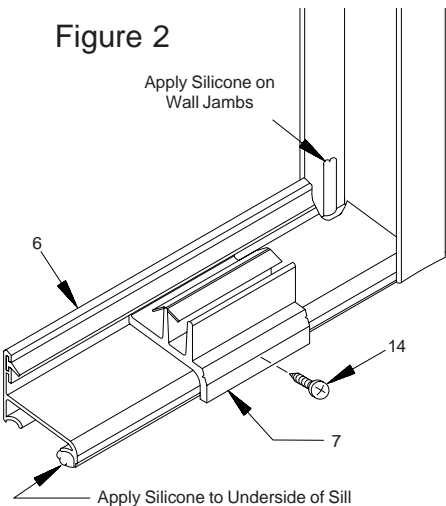

Figure 2
6. Place center guide (7) to center position on sill (See Figure 2). Make sure the center guide is hooked into the slot position on the sill, then drill a hole using a #31 drill bit and fasten center guide to sill with the #6 x 3/8" screw (14) provided.
1. Set Wall Jamba (1) in place on walls, centering bottom of jamba on rim of tub. Hold plumb and mark walls for screw holes.
2. Remove and drill 3/16" diameter holes in walls (use a carbide tipped drill bit for tile walls). Insert plastic wall anchors (2) into holes.
3. Cut sill (6) to fit opening between jamba. Run a bead of silicone full length to the underside of sill (See Figure 2) and apply silicone to inside of jamb where jamb meets tub. On inside of jamb, run a 1/4" bead of silicone 1 1/4" up the outside leg of each wall jamb (See Figure 2). Set sill in place and press firmly to rim of tub. Wipe off any excess silicone before curing. Use tape to hold in place until silicone has set.
4. Cut Header (8) 1/32" to 1/16" less than opening width and set in place.
5. To set slider glass in place, hold inside slider panel inside of tub or shower pan, insert rollers up into header and lower into place. The inside slider glass has only one hole for the inside pull handle (10) and will